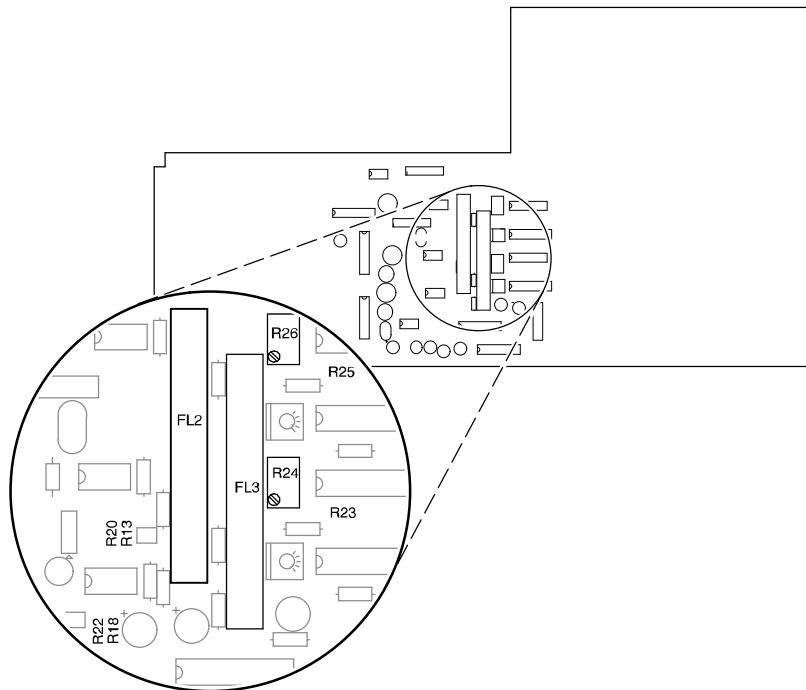

Figure 1: Component locations on the main circuit board
1. Refer to Figure 1 and locate R13 and R18 on the A2 main circuit board.
4. Adjust the Right Channel Gain potentiometer, R24 (see Figure 1 on page 6 for location), for an output amplitude of 3.8822 volts.